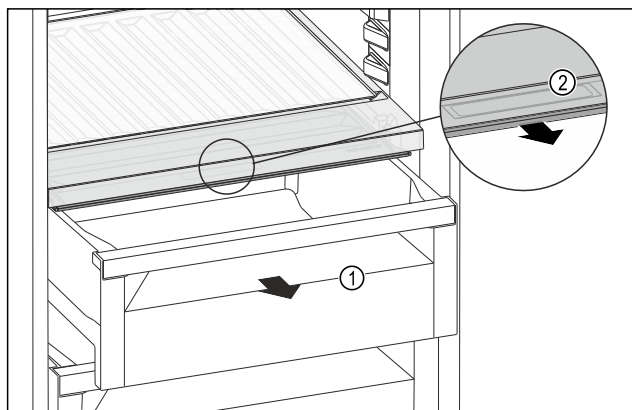

Fig. 133
- ▶ Pull out the drawer Fig. 133 (1).
- ▶ Grasp the recessed grip Fig. 133 (2) on the compartment lid and pull the compartment lid forwards at the same time.